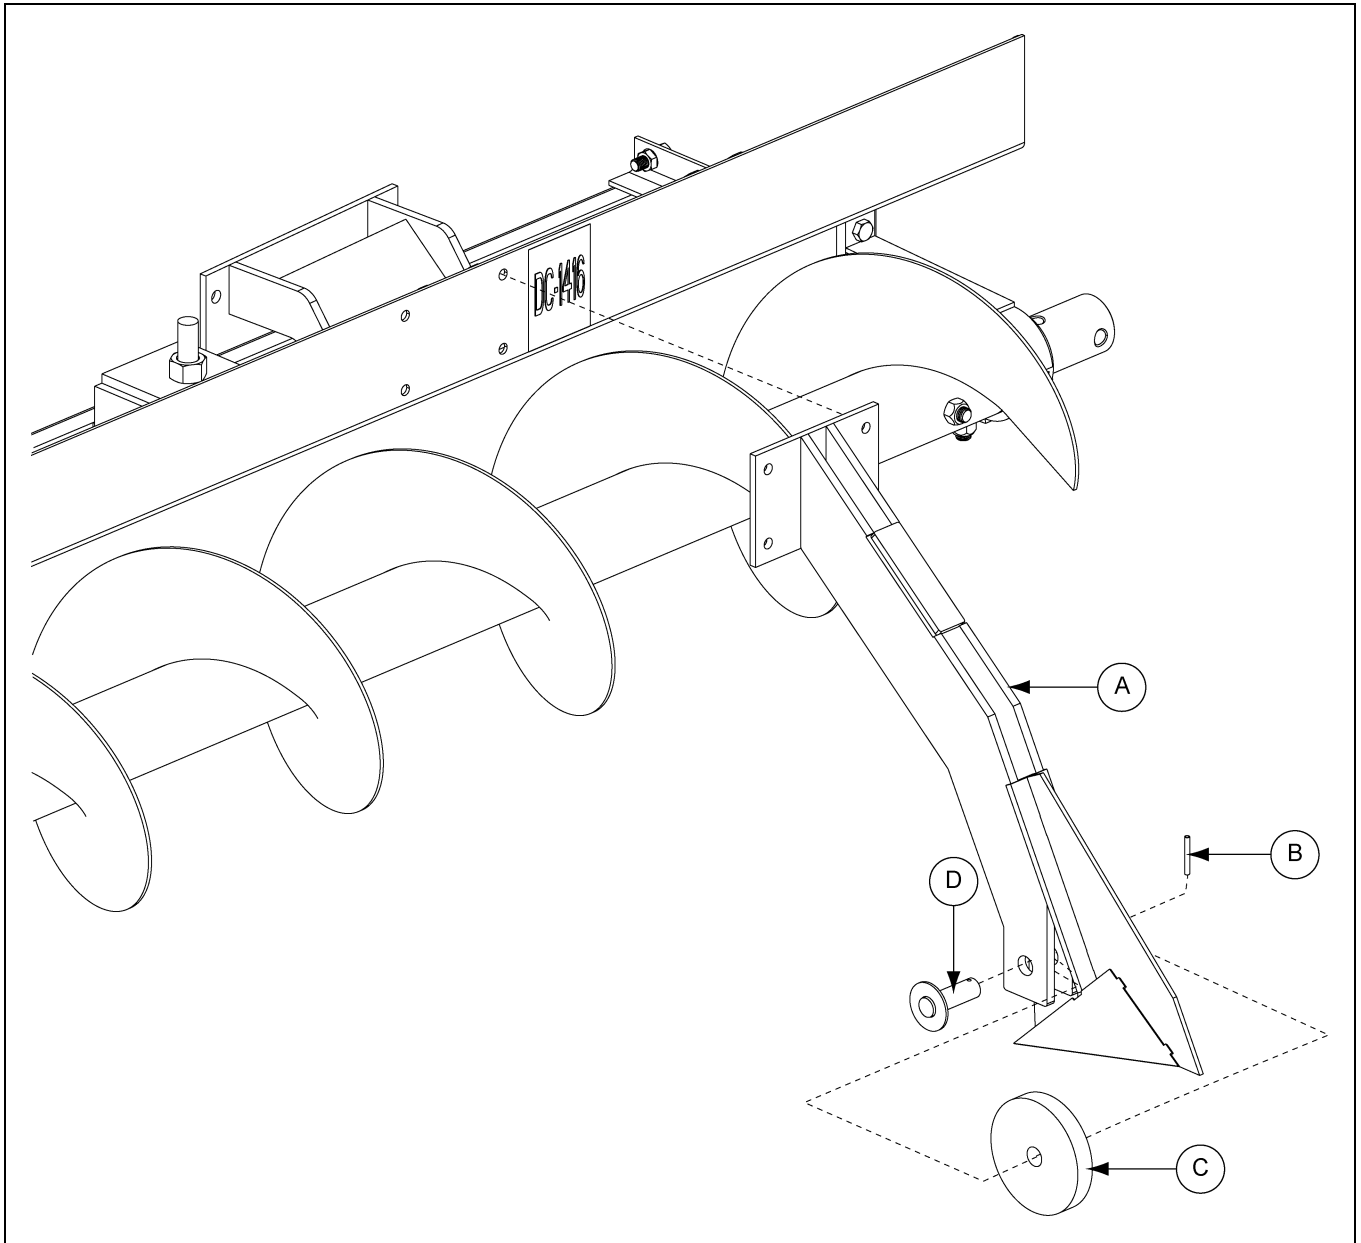

Figure 7A1
1. Assemble front wheel (C) to strut (A) using pin (D) and roll pin (B). (See Figure 7A1.)